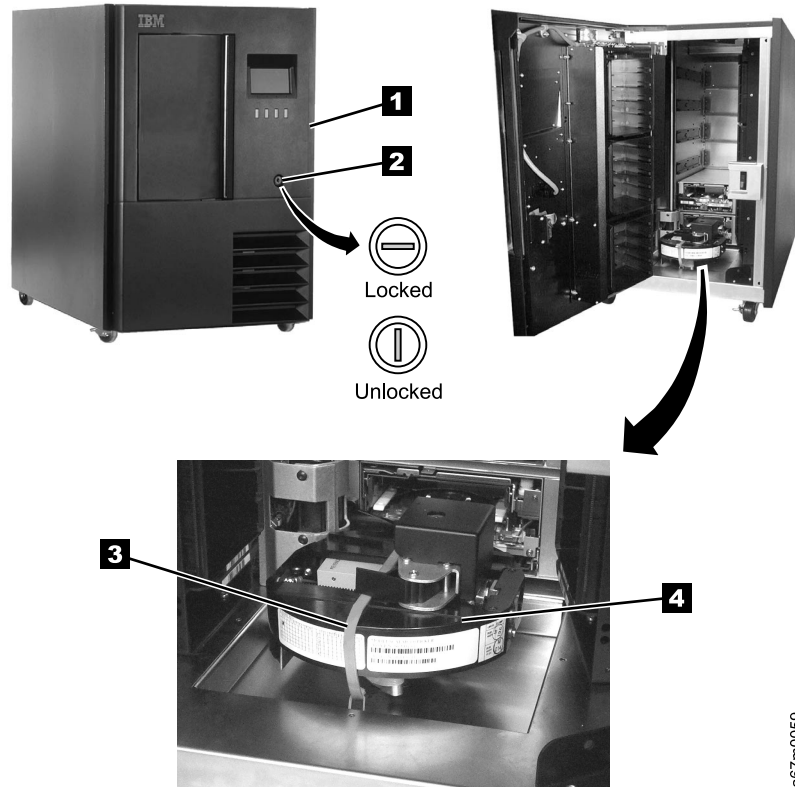

Figure 14. Installing a stand-alone library
3. Open the front door **1** by using the key **2** (see Figure 14).